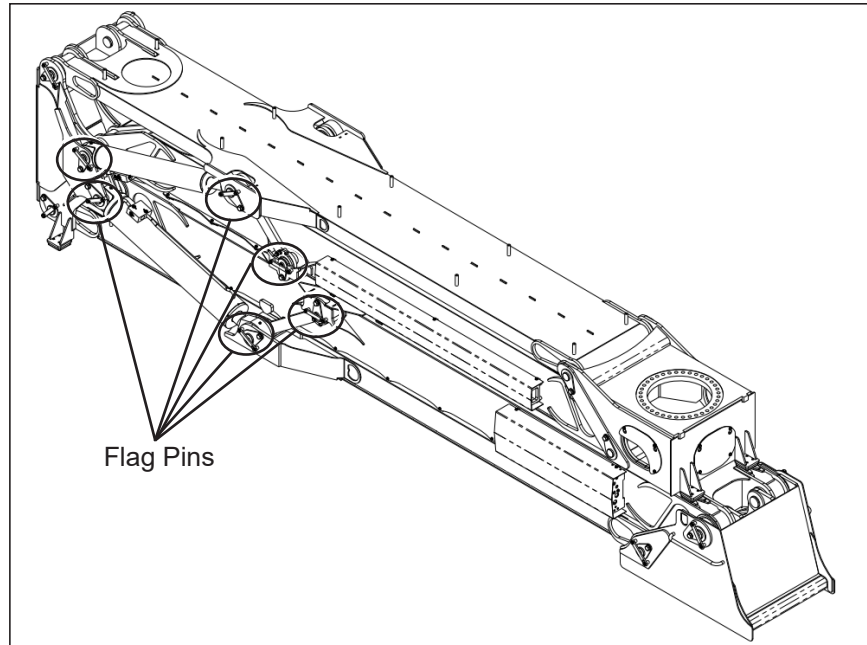

Figure 1 — Inspection Sites (Street Side View)
2. Locate the flag pins on both ends of the elevator cylinders and on the elevator cross link (refer to Figure 1). There are six flag pins on the street side and six flag pins on the curb side for a total of 12 elevator flag pins. All 12 pins require inspection.